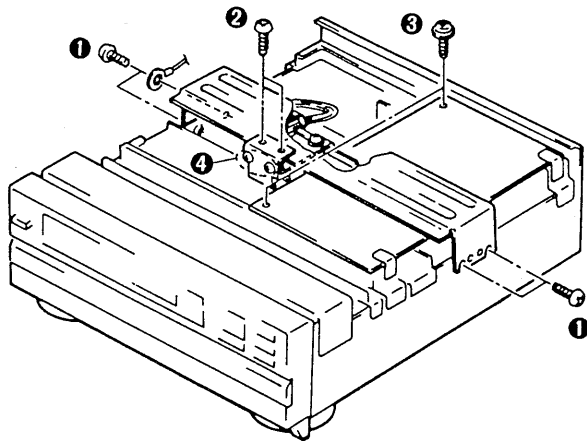

Fig. 1
1. Remove four screws which fasten both sides of reinforcement. (L, center part of chassis.) (Figure 1-①)
2. Remove two screws which fasten the reinforcement (SB) to the reinforcement. (Figure 1-②)
**Note-1** Do not remove the two screws of figure 1-④ since the installation location might be shifted.
3. Remove two screws (Figure 1-③) which fasten the main board.